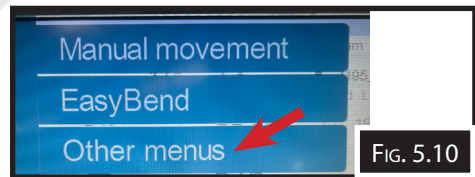

FIG. 5.10
3. Press "Other menus" Button (Fig 5.10)